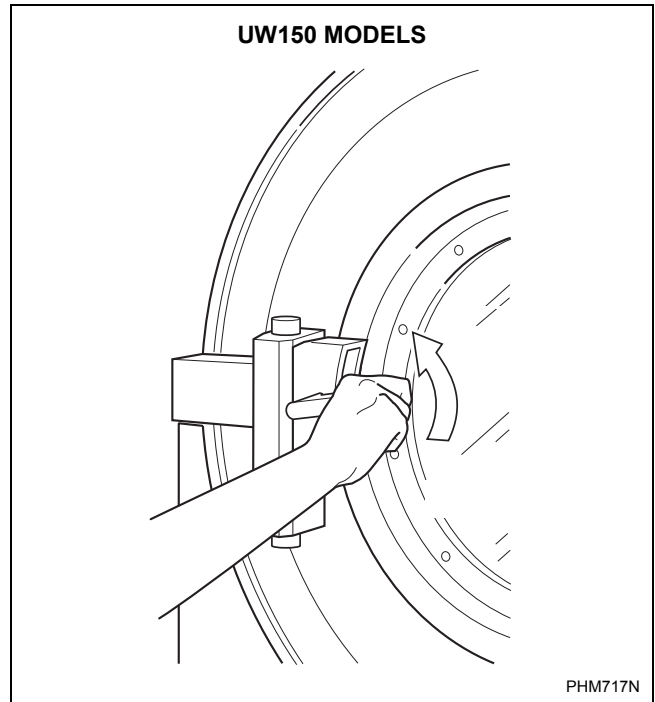

Figure 10
5. On 150 models, turn handle counterclockwise and swing the door right to open. Door must be opened within 5 seconds of pressing the door unlock button. Refer to *Figure 10*.